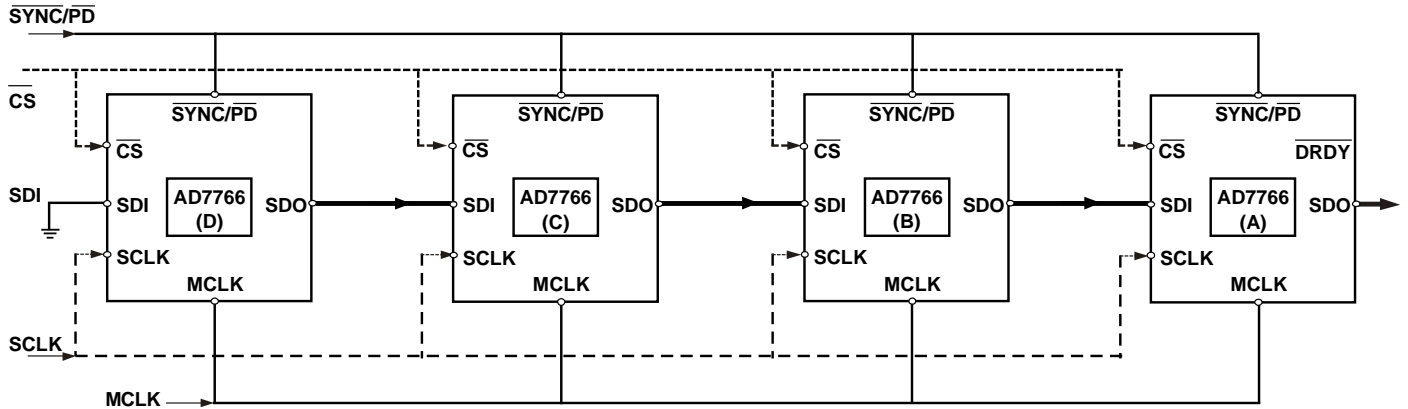
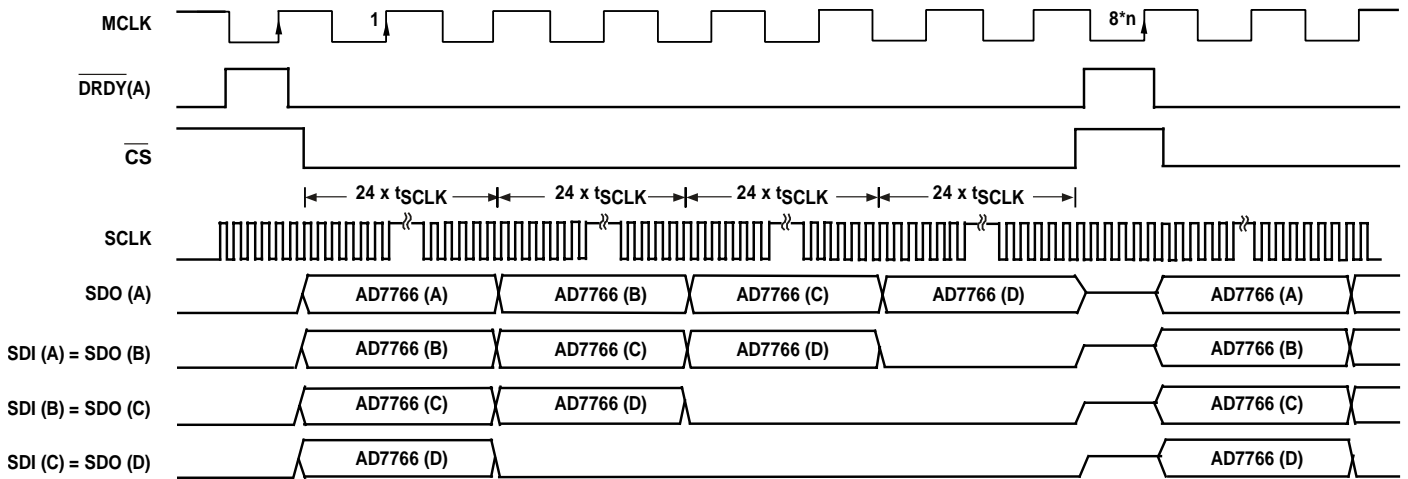

Figure 13 AD7766 Daisy chain configuration with 4 x AD7766 devices..
Figure 14 AD7766 Daisy chain Timing diagram. For AD7766 n=1, AD7766-1 n=2, AD7766-2 n=4. Driving the AD7766
The block diagram in Figure 13 shows the way in which devices must be connected in order to achieve daisy chain functionality. This scheme operates by passing the output data of the SDO pin of an AD7766 device to the SDI input of the next AD7766 device in the chain. The data then continues through the chain until it is clocked onto the SDO pin of the first device on the chain.
An example of a daisy chain of four AD7766 devices is shown in Figure 13 and Figure 14. In the case illustrated in Figure 13 the output of AD7766 (A) is the output of the full daisy chain. The last device in the chain (AD7766(D)) will have its Serial Data In (SDI) pin connected to ground. All the devices in the chain must use common MCLK, SCLK,  $\overline{\text{CS}}$  and SYNC/PD signals.
After applying a SYNC/PD pulse to all the devices there is a delay (as listed in Table 7) before valid conversion data appears at the output of the chain of devices. As shown in Figure 14 the first conversion result is output from the device labeled AD7766(A). This 24-bit conversion result is then followed by the conversion results from the devices B, C and D respectively with all conversion results output in an MSB first sequence. The stream of conversion results are clocked through each device in the chain and are eventually clocked onto the SDO pin of the AD7766 (A) device. The conversion results of the all the devices in the chain must be clocked onto the SDO pin of the final device in the chain while its  $\overline{\text{DRDY}}$  signal is active low. This is illustrated in the example shown where the conversion results from devices A, B, C, & D are be clocked onto SDO (A) in the time between the falling edge of  $\overline{\text{DRDY}}$  (A) and the rising edge of  $\overline{\text{DRDY}}$  (A).
As shown in Figure 13 the number of SCLK falling edges that occur during the period when  $\overline{\text{DRDY}}$  (A) is active low must match the number of devices in the chain multiplied by 24 (the number of bits that must be clocked through onto SDO (A) for each device).